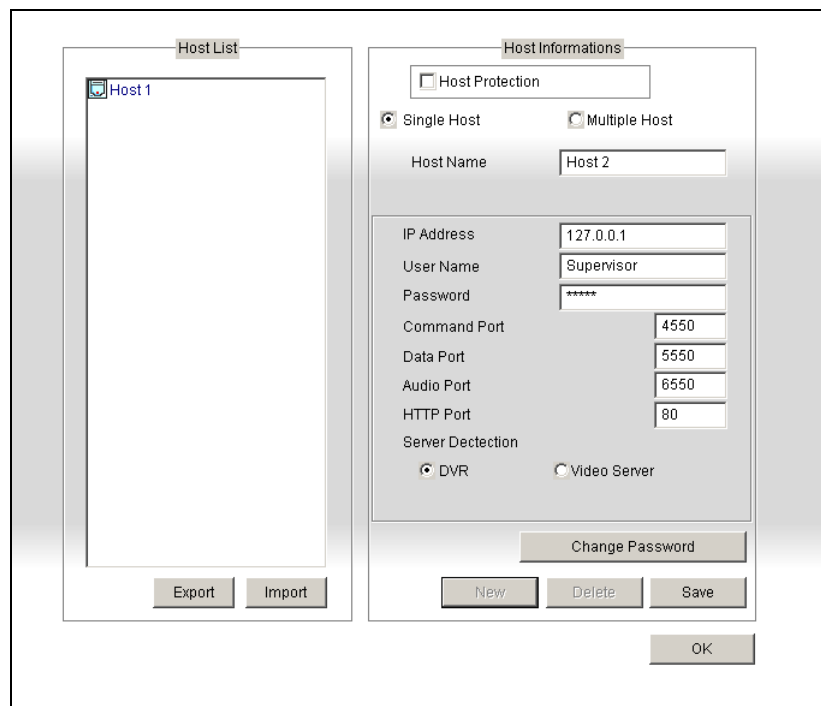

Figure 6-35 The Edit Host Window
1. Click the **Edit Host** button (No. 8, Figure 6-29) to display the Edit Host window (Figure 6-35), and then click the **New** button to create a new host.